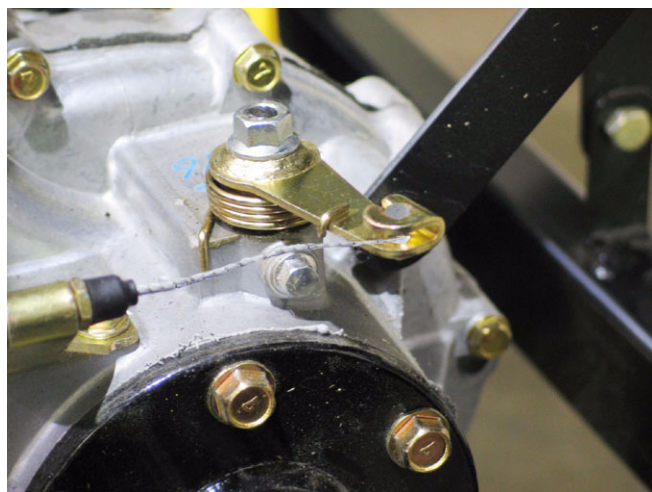

Figure 4.50
- 4.50. When the differential lock is disengaged, the spring at the front of the cable should be fully retracted, there should be slight slack in the cable, and the differential lock control arm should be at the end of its rearward travel (all the way back). See Figure 4.50.